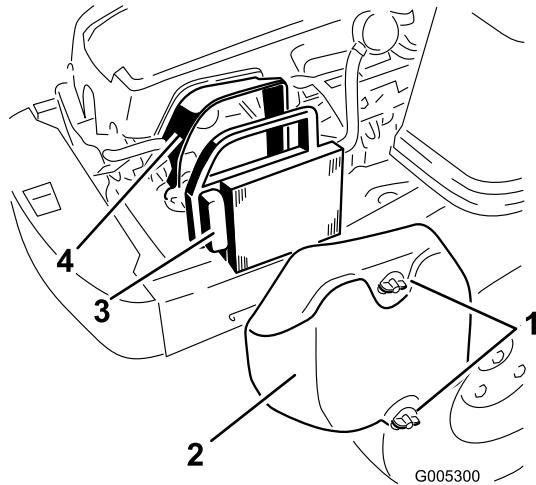

Figure 28
1. Remove the air cleaner cover (Figure 28).
2. Remove the air cleaner element with the integral rubber seal (Figure 28).
- Install the air cleaner element with the pleated side “out” and seat the rubber seal onto the edges of the air cleaner base (Figure 28).
- Reinstall the air cleaner cover and secure with the two knobs (Figure 28).